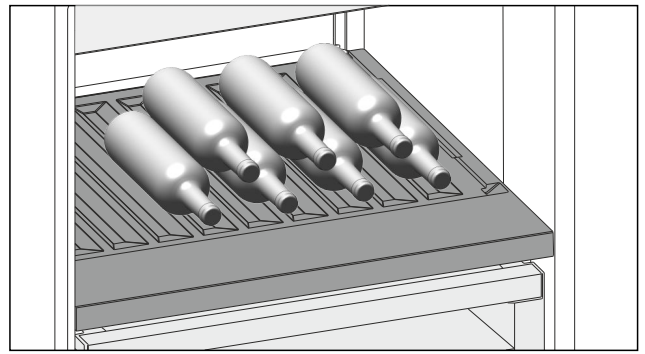

Fig. 128 Example illustration
- Place bottles in the back row with their bases against the back wall. (see Fig. 128)